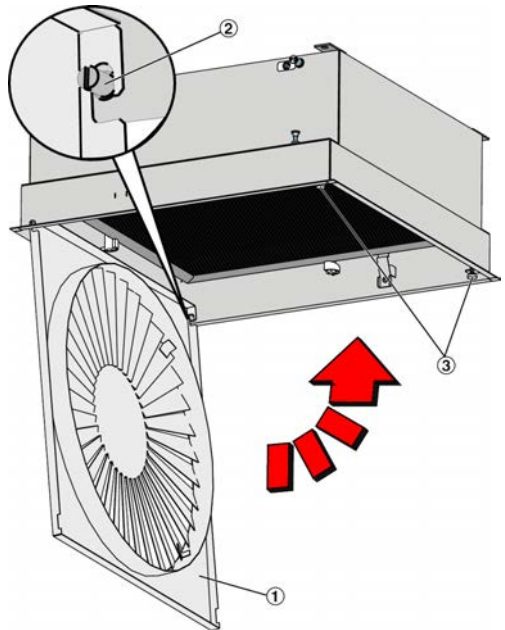

Fig. 5: Installing the diffuser face
1. ▶ Mount the diffuser face (Fig. 5/1) on to the two bolts (Fig. 5/2).
2. ▶ Swivel up the diffuser face until it is held by the magnets (Fig. 5/3).